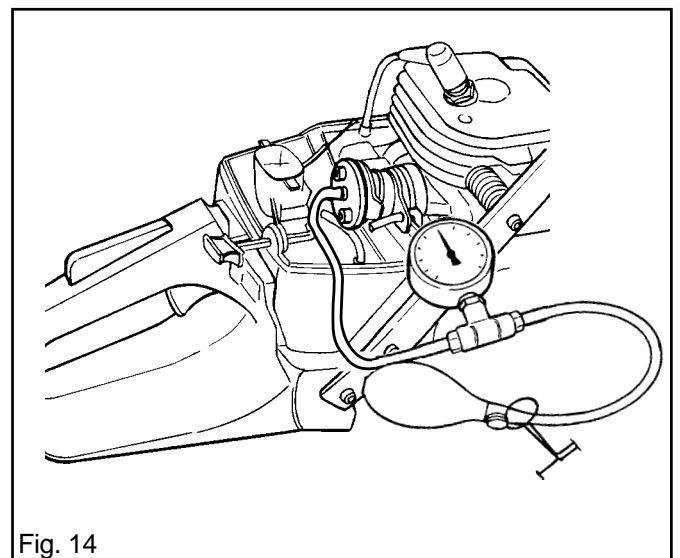

Fig. 14
2. Connect tool 502 50 38-01 to the cover plate on the inlet manifold. See fig. 14. The decompression valve should be closed.
6. Insert the six bolts and tighten them in rotation. Tighten them finally to 8 Nm. See fig 14.